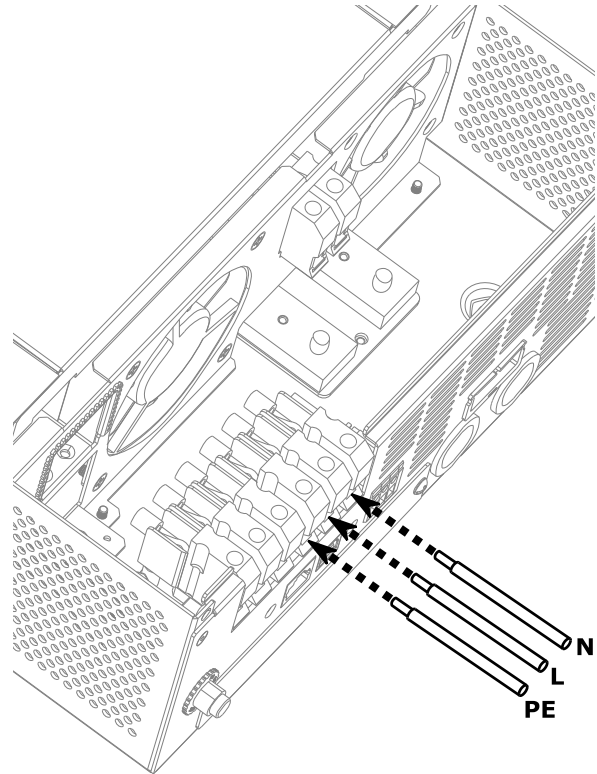

Figure 8: AC output conductor connection
4. Connect the PE (⊕ - protective earth) cable of the AC input (*Figure 7*) to the corresponding terminal on the inverter and connect the PE (⊕ - protective earth) conductor of the AC output (*Figure 8*) to the corresponding terminal on the inverter. Tighten the terminal clamps with a torque of 1.4 - 1.6 Nm.
5. Connect the L (phase) and N (neutral) conductors to the respective AC input (*Figure 7*) and AC output (*Figure 8*) terminals. Tighten the terminal clamps with a torque of 1.4 - 1.6 Nm.